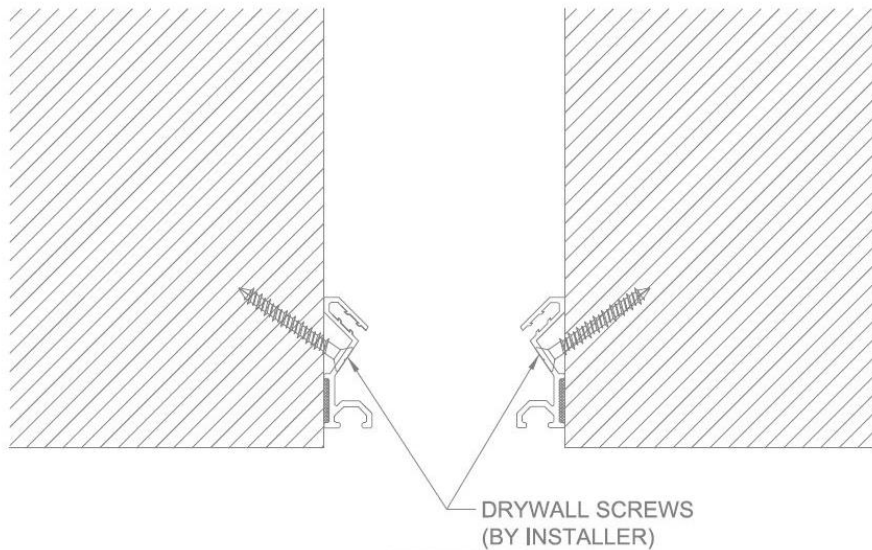

FIGURE 2
2. Attach the aluminum extrusions with an appropriate length drywall screw (by installer), making sure it penetrates the substrate. When attaching to a concrete wall, drill a hole into concrete using a  $\text{Ø}5/32$ " masonry bit and attach using  $\text{Ø}3/16$ " Tapcon anchors (by installer). **See Figure 2**